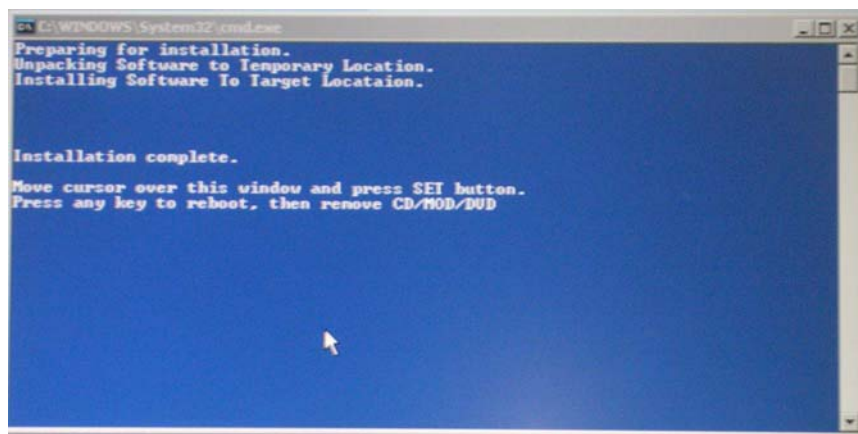

Figure 8-76 Software Installation Complete Message
- 6.) When done, the Installation Complete message is displayed (refer to Figure 8-76 on page 8-93).